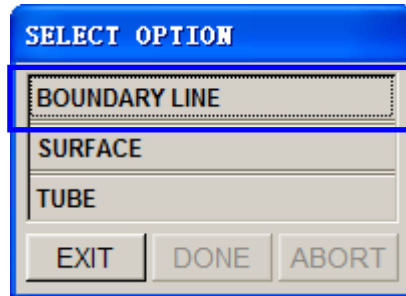

Figure 21: Select option dialog box
2. Select the **BOUNDARY LINE** option from the **Select Option** dialog box illustrated in Figure 21.